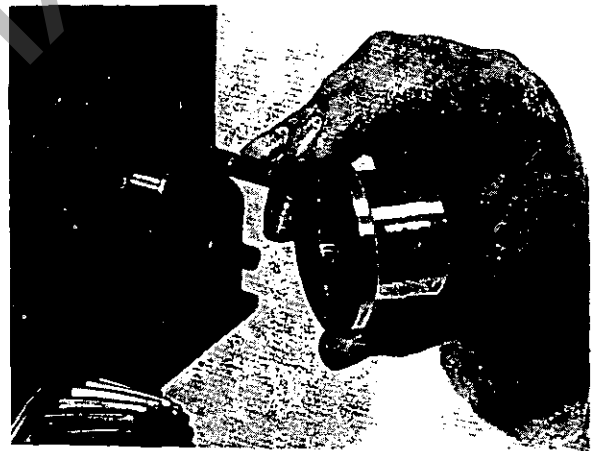

Fig. J.6
1. Ensure that all parts are clean, fit the idler gear hub (Fig. J.6).